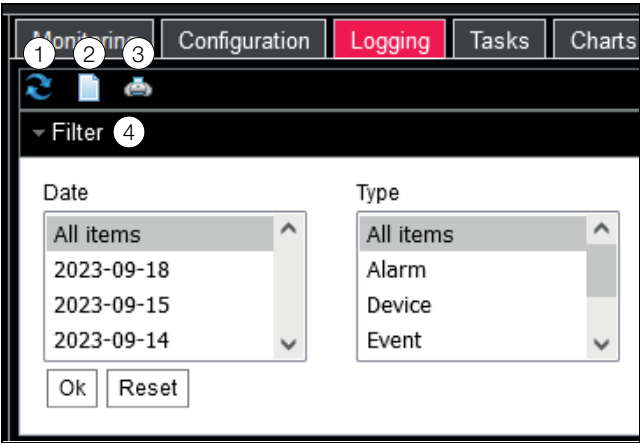

Fig. 69: Logging tab
■ Click on the first symbol on the left (fig. 69, item 1).
■ Click on the first symbol from the left (fig. 69, item 1).
- Click on the third symbol from the left (fig. 69, item 4).
- Click on the second symbol from the left (fig. 69, item 2).